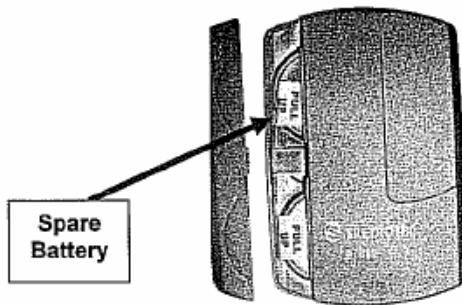

Figure 2.3. Card with Spare Battery
- a. A unit that houses two batteries (Figure 2.3) – one in use and a spare one.